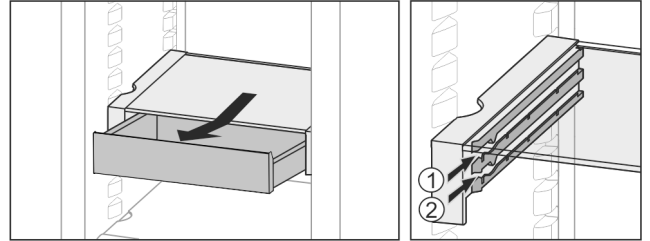

Fig. 26
- ▶ Slide in at any height Fig. 26 (1) or Fig. 26 (2).